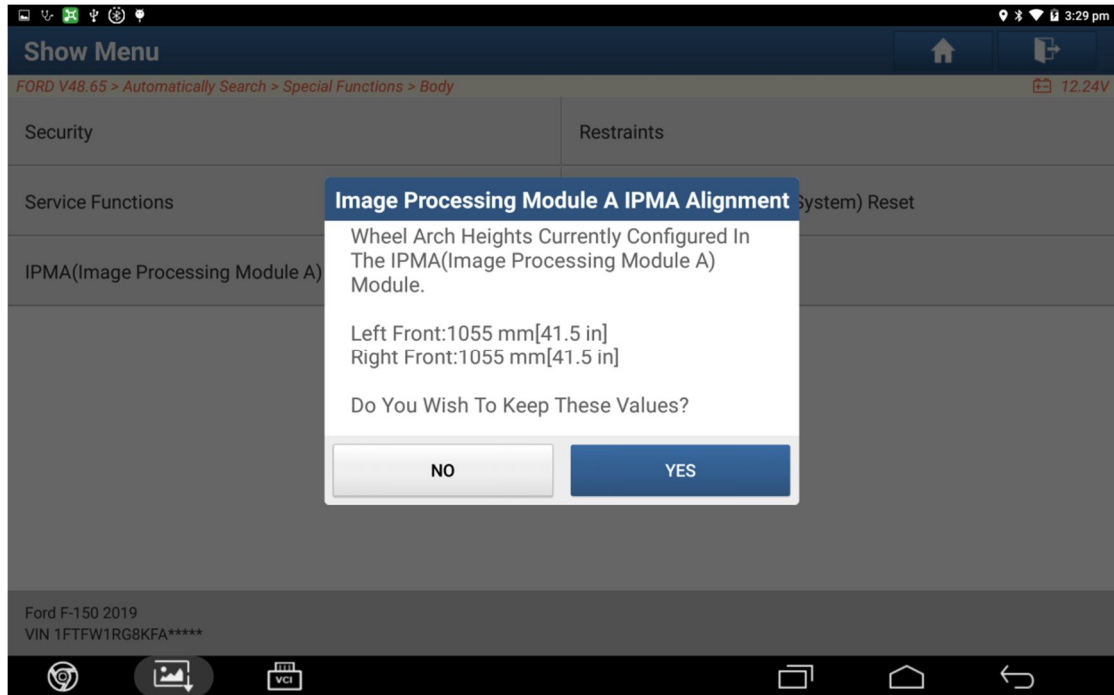

Figure 10
9. Read vehicle data (Figure 10);